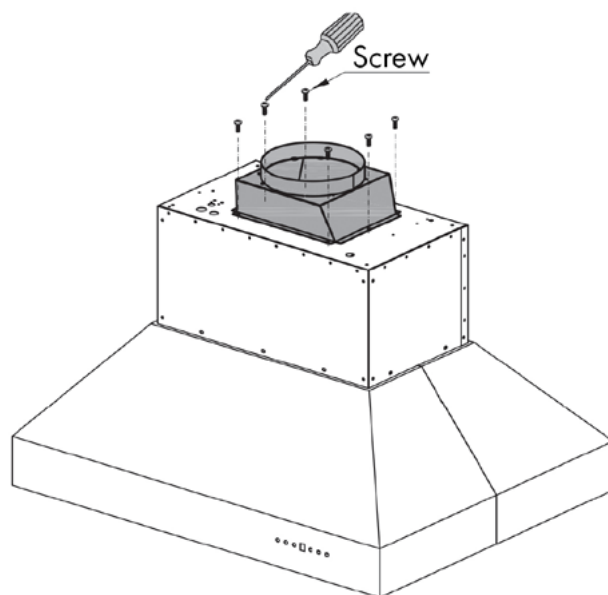

Figure 4
5. Use 4 or 6 screws (G) — the number depends on range hood model — to attach the transition piece to the top of the hood. Ensure the dampers in the transition piece open upward, not downward. **NOTE:** In some models, the transition piece will already be installed. *Figure 4*